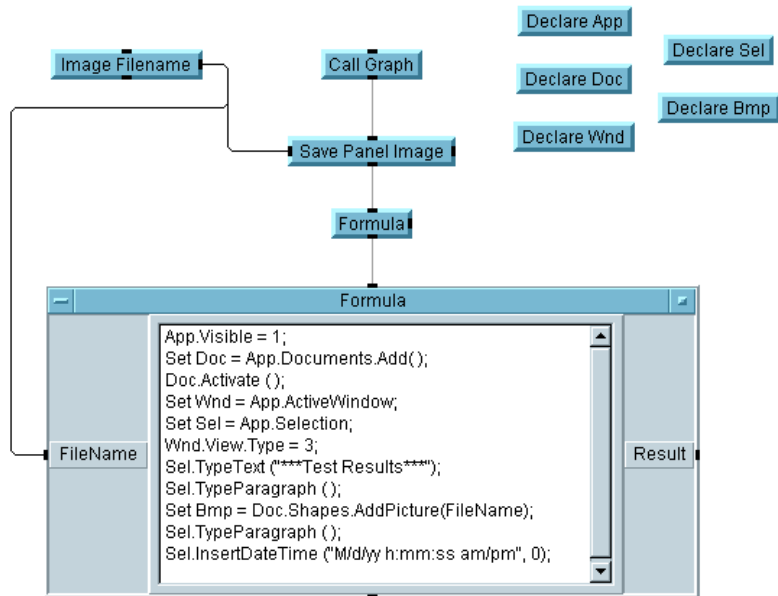

Figure 6-16. Adding the ActiveX Statements
- Click Device ⇒ Formula and enter the statements shown in Figure 6-16, which are also described below. Rename input terminal A to FileName. Connect the data input and sequence input pins as shown in Figure 6-16.
In Figure 6-16, notice that you can nest property and method calls together with the `Object`'s dot notation. Refer to ActiveX documentation to find the right properties in the target applications. You can use the properties and methods described in this chapter to begin generating test and measurement reports. The entries in the `Formula` object are as follows: